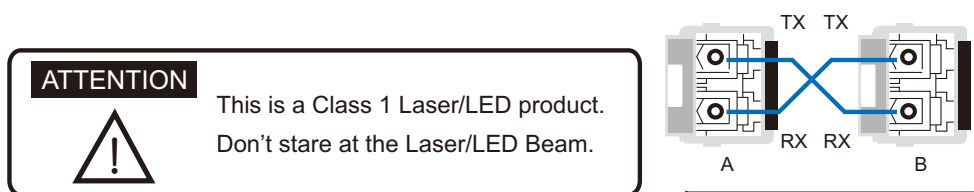

Figure-5
- 2. Connecting the SFP Port:** Plug in SFP fiber transceiver. We recommend using Korenix certificated SFP mini GBIC transceiver. Cross-connect the transmit channel at each end to the receive channel at the opposite end as illustrated in the Figure-5.